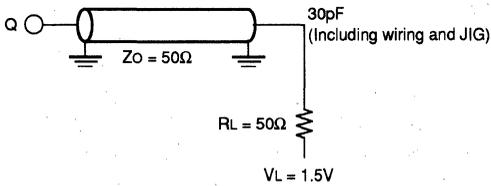

Fig. 1 Output load
(1) MEASUREMENT CONDITIONS
- Output load Fig. 1, 2
23. Test conditions is specified with the output loading shown in Fig. 1 unless otherwise noted.